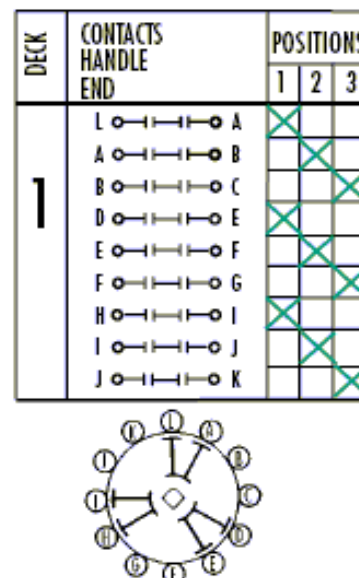

Fig.21 Three pole per section with double break switching.
9. This configuration is the same as configuration 2 except first position is ON (Fig.21).